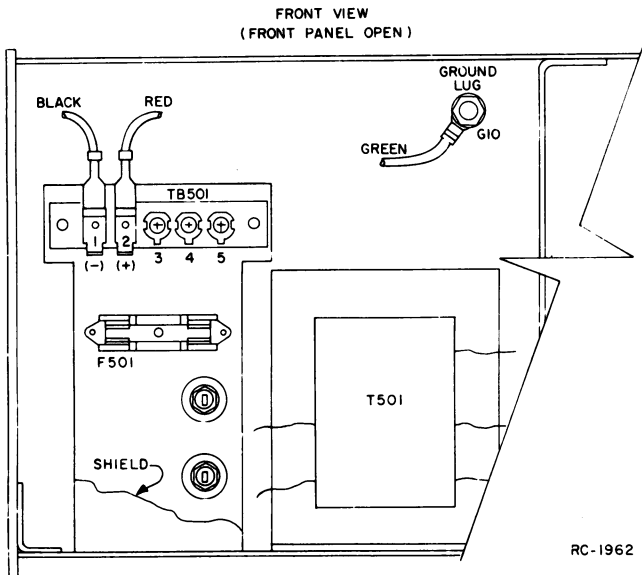

Figure 1 - Power & Ground Connections
5. Make the power and ground connections as shown in the chart in Figure 1.
3. Make the power and ground connections from the multi-charger to the slave unit as shown in Figure 1.